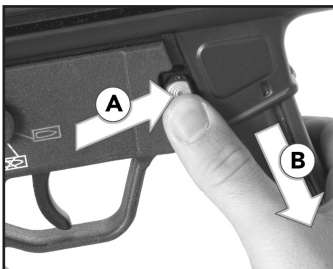

Fig. 31 – Unloading
2. Remove magazine by grasping magazine housing, press magazine catch **A** and remove magazine **B** (Fig. 31).